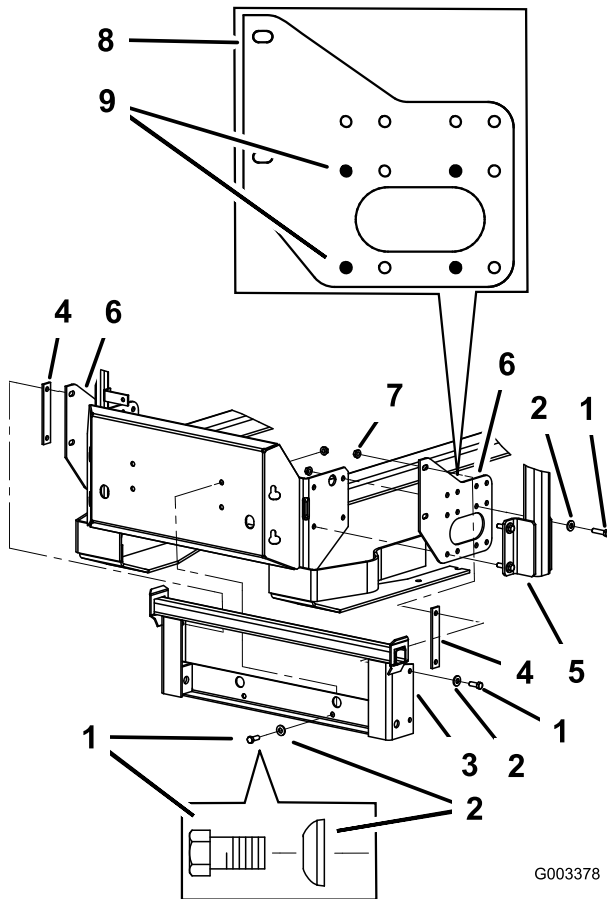

Figure 6
1. Remove the bolts, nuts, and washers holding the roll bar to one side of the machine. Discard the nuts, bolts, and washers (Figure 4, Figure 5, and Figure 6).
2. Install the bagger side plate and the roll bar section to the side of the machine using 4 bolts (3/8 x 1-1/2 inches), 4 curved washers (3/8 inch), and 4 flange nuts (3/8 inch) (Figure 4, Figure 5, and Figure 6).
3. Repeat the steps above for the opposite side (Figure 4, Figure 5, and Figure 6).
Note: Make sure the curved washers are installed as shown in Figure 4, Figure 5, and Figure 6.
4. Install the bagger mounting bracket to the left and right side bagger brackets with 4 bolts (3/8 x 1-1/2 inches), 4 curved washers (3/8 inch), and 4 flange nuts (3/8 inch) (Figure 4, Figure 5, and Figure 6).
washers (3/8 inch), and 2 flange nuts (3/8 inch) (Figure 4, Figure 5, and Figure 6).
3. If the bagger mounting bracket moves side to side an 1/8 inch or more, install one or both of the spacers between the bagger mounting bracket and mounting plates (Figure 4, Figure 5, and Figure 6).